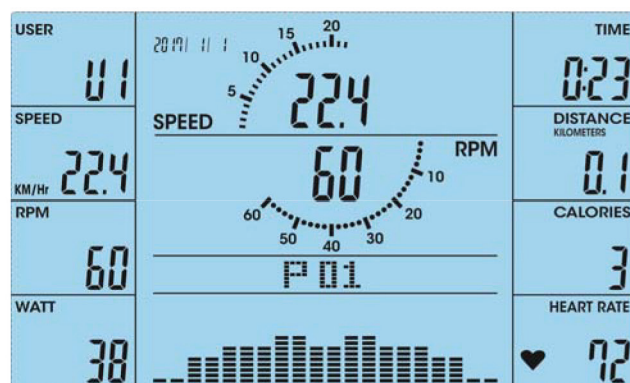

Fig. 31
3. Press START/STOP to start the training (fig. 31).